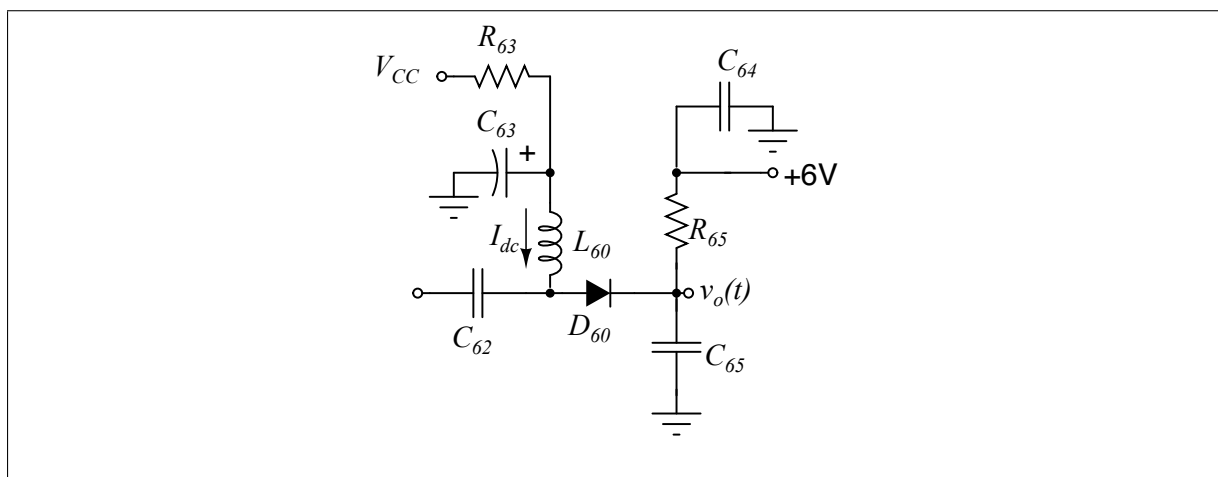

Figure 1: TRC-11 envelope detector circuit.
1. The envelope detector circuit of TRC-11 is given in Fig. 1. It serves to recover the AM modulation signal present on the RF signal. It does so by rectifying the positive side of the AM modulated signal. A low-pass circuit composed of C65 and R65 gets rid of the RF signal frequency.
1. A PIN diode acts like an RF resistance whose value is determined by the DC current flowing through it. It is inserted between the first and second IF amplifiers when the jumper JP70 is shorted. If the DC current through it increases, its resistance reduces and hence attenuates the signal going to the second IF amplifier as shown in Fig. 1. Refer to the datasheet of the PIN diode on page 412. Find the reverse breakdown voltage, V_R , and the series RF resistance, R_S , and the forward voltage, V_F of the PIN diode when 1 mA DC flows through it.